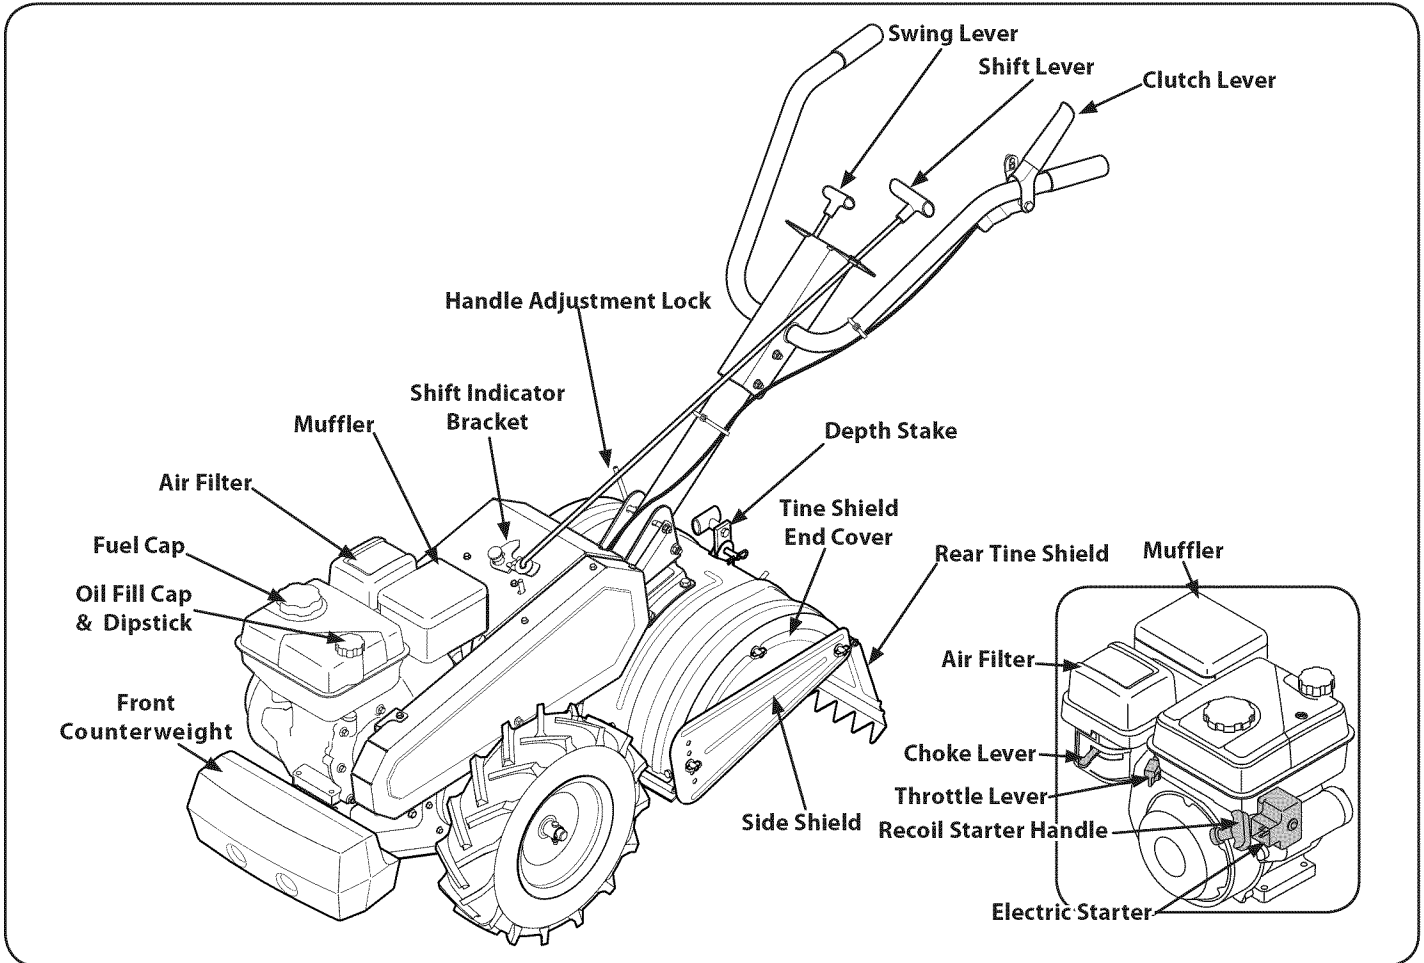

Figure 13
Now that you have set up your tiller for operation, get acquainted with its controls and features. These are described on the next two pages and illustrated on this page in Figure 13. This knowledge will allow you to use your new equipment to its fullest potential.
5. Move throttle control to START/RUN (Rabbit)  position. See Figure 13. Push starter button to start engine.
3. Move the choke lever on the engine to CHOKE  position. (A warm engine may not require choking.) See Figure 13.